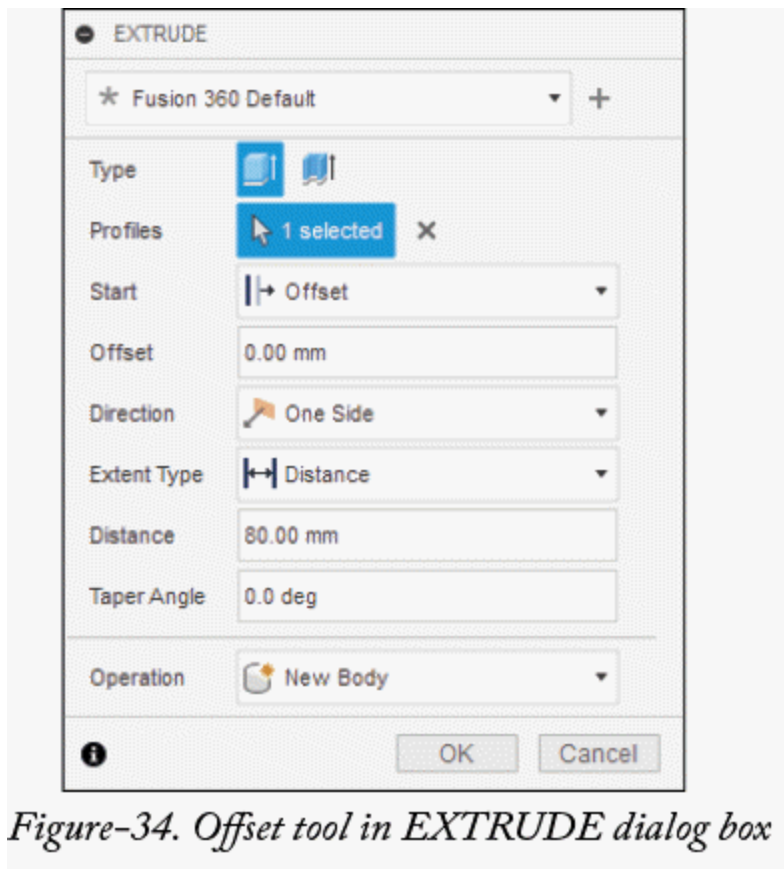

Figure-34. Offset tool in EXTRUDE dialog box
- Select **Offset** option if you want to extrude the sketch starting from some offset distance. The updated **EXTRUDE** dialog box will be displayed; refer to Figure-34.